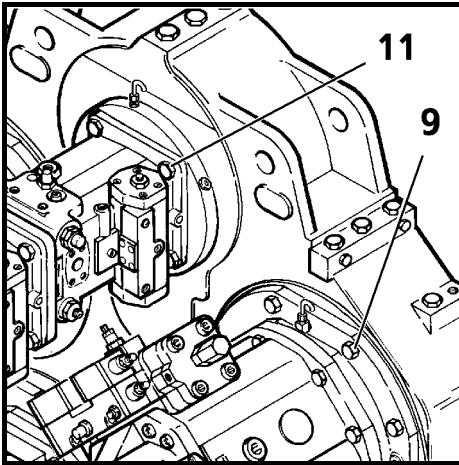

Fig. 52
The mounting bolts of the main working pumps (Fig. 52, pos. 9) must be torqued to 620 Nm (460 ft.lbs).
The mounting bolts of the swing pumps (Fig. 52, pos. 11) must be torqued to 620 Nm (460 ft.lbs).Nm.